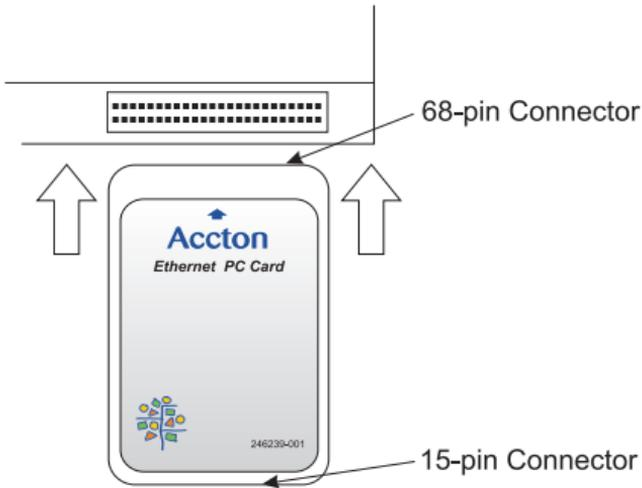

Figure 1. Inserting the Ethernet PC Card into the Type II PCMCIA Slot.
1. Insert the Ethernet PC Card into the computer's PCMCIA slot. Insert the card with the 68-pin connector facing the PCMCIA slot and the label facing up. See Figure 1 for illustration.